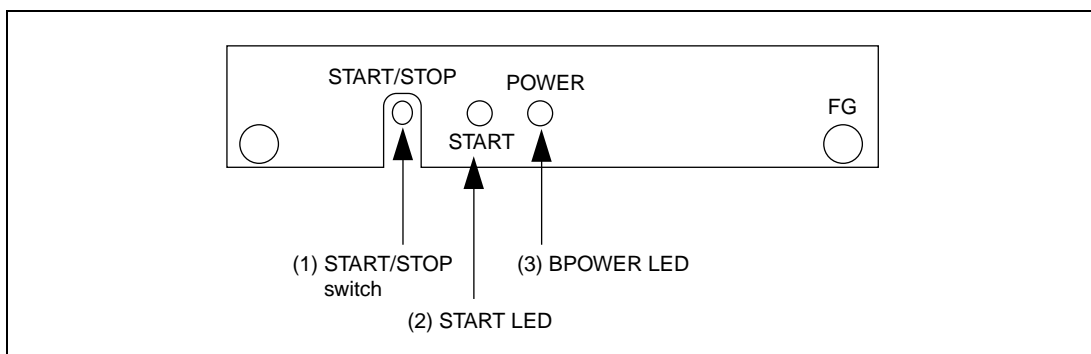

Figure 3.15 Ending the Writing Process
(11) Ending the On-Board Programming Process
Pressing the START/STOP switch on the front of the adapter board ((1) in Figure 3.15) turns off the START LED (red). You can now end the programming process, remove the adapter board, and check that the newly written program runs correctly.
(13) Ending the on-board programming process
Pressing the START/STOP switch on the front of the adapter board ((1) in Figure 3.15) turns off the START LED (red). You can now end the writing process, remove the adapter board, and check that the newly written program runs correctly.